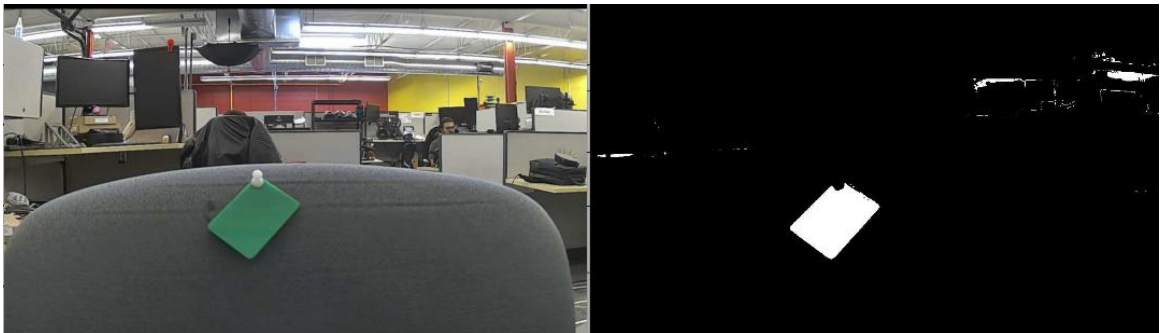

Figure 2. Identify Object of Interest
7. Open the **Mask** Video Display block to monitor image segmentation. Identify your object's hue (0–360) using the color wheel and adjust the slider in section 2 to match the object's color. Modify the search window and the min/max S & V range to isolate your object as shown in Figure 2. Some noise is expected—this will be addressed in the next step.